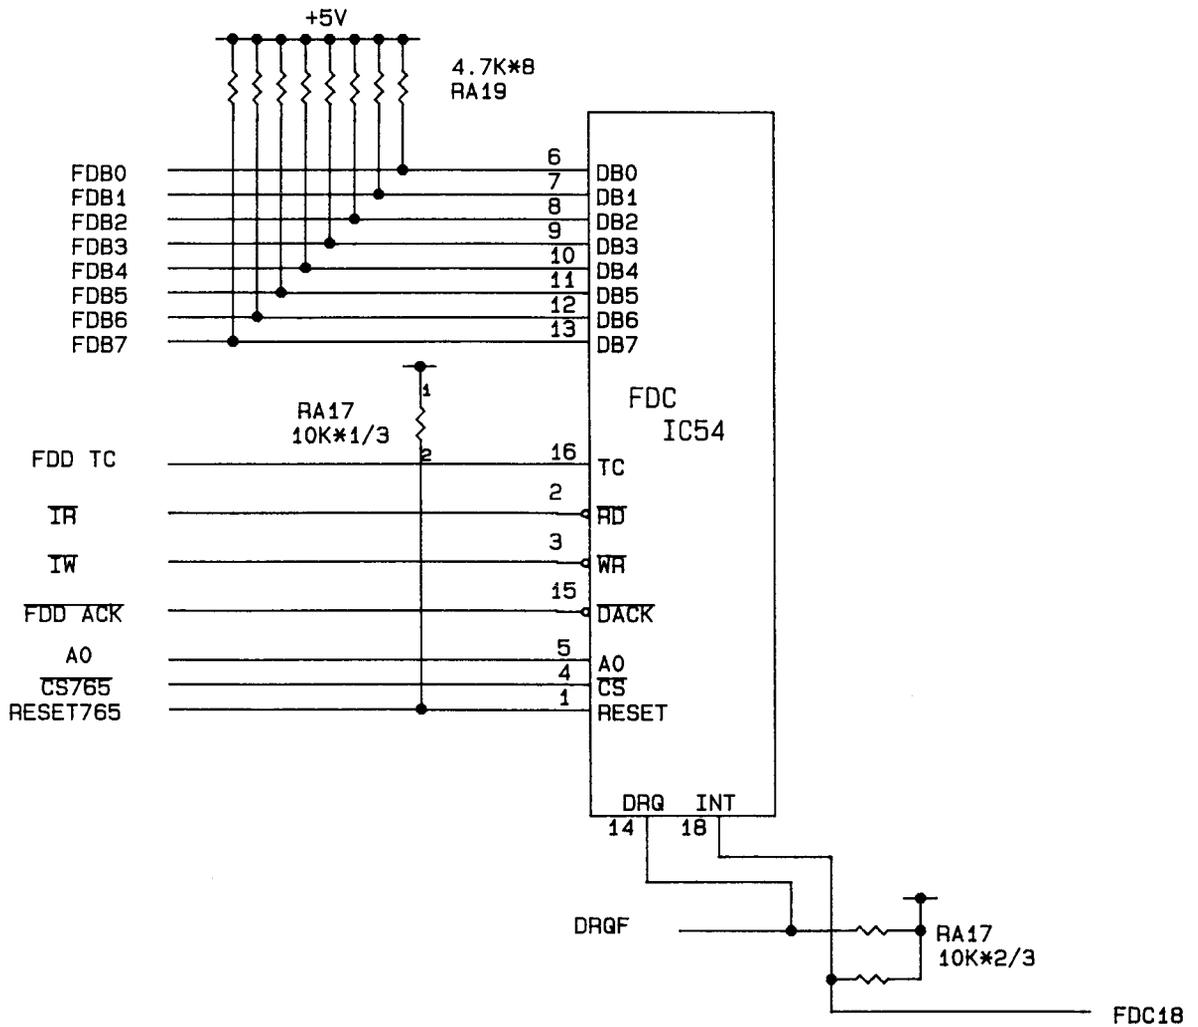

Figure 4-24. CPU Interface for FDC
Figure 4-24 shows the CPU interface for FDC. The clock for FDC is supplied from VFO (4MHz clock). The reset signal (RESET765) is fed to the reset terminal. The terminal A0 selects the contents to be sent to the data bus. When it is set, the data register contents are sent, when it is reset, the status register are sent. "0" active signals IR (IW) input allows the transfer of data from (to) the FDC to (from) the data bus. The FDC is selected when "CS765" is low, enabling IR, IW and A0. The FDC sets the INT terminal to HIGH when the command is executed.